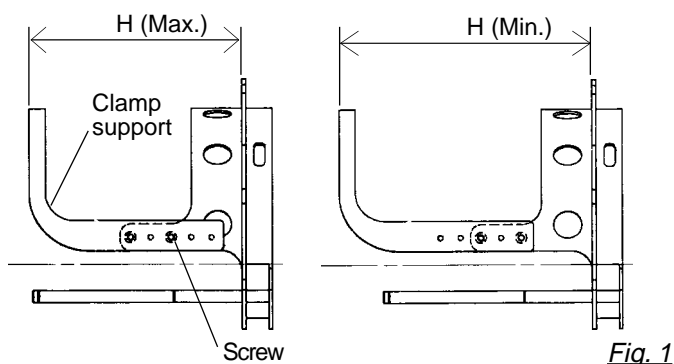

Fig. 1
1. Adjust position of clamp support to the height of the cap. (Fig. 1)